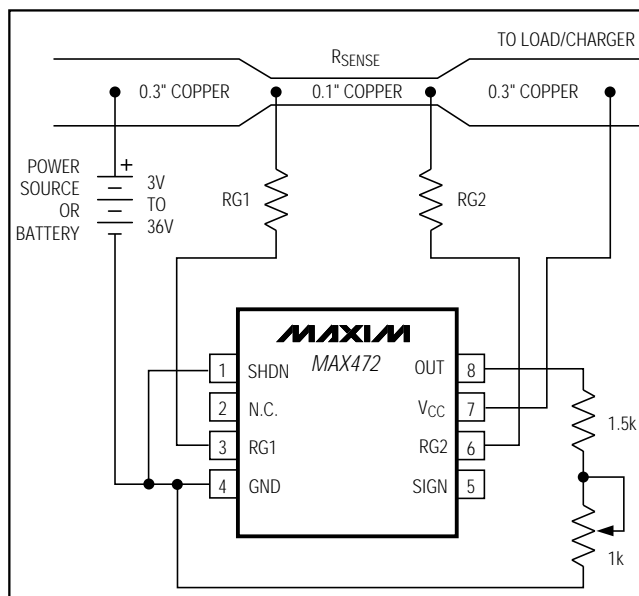

Figure 6. MAX472 Connections Showing Use of PC Board Trace
- Cost:** If the cost of R_{SENSE} becomes an issue, you may want to use an alternative solution, as shown in Figure 6. This solution uses the PC board traces to create a sense resistor. Because of the inaccuracies of the copper "resistor," you will need to adjust the full-scale current value with a potentiometer. Also, the resistance temperature coefficient of copper is fairly high (approximately 0.4%/°C), so systems that experience a wide temperature variance should take this into account.
In Figure 6, assume the load current to be measured is 10A and that you have determined a 0.3 inch wide, 2 ounce copper to be appropriate. The resistivity of 0.1 inch wide, 2 ounce copper is 30mΩ/ft (see Note 4). For 10A you may want $R_{SENSE} = 5\text{m}\Omega$ for a 50mV drop at full scale. This resistor will require about 2 inches of 0.1 inch wide copper trace.